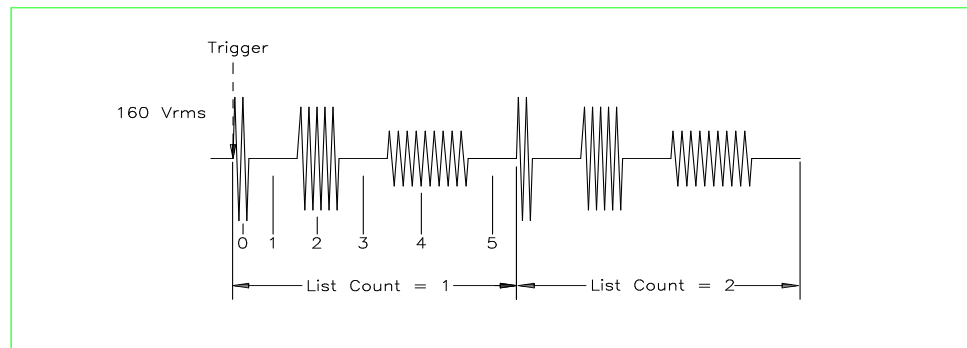

Figure 4-40: List Transients
13. Move the cursor to the END DELAY field and enter 0.067 for a interval delay of 67 mS. Notice that we effectively combined steps 0 and 1 from Figure 4-40 into a single list event.
21. Move the cursor to the START field and press the ENTER key. The transient program you just created will execute two times. If you have an oscilloscope connected to the output, you may be able to see the output voltage change per Figure 4-40.